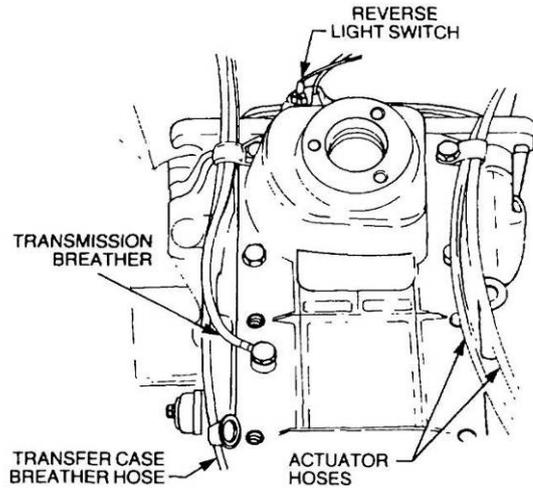

Figure 54 Removal of the Hose Clamps
- (1) the gearlever;
- (2) the top cover; and
- (3) the transfer-case selector lever.
- h. Remove the two push-on connectors from the reverse light switch located on the top of the transmission (Figure 54).
- i. Remove the clamps securing the breather and actuator hoses to the transmission (Figure 54). Remove the transmission breather hoses from the top of the transmission and the breather on the bell housing.